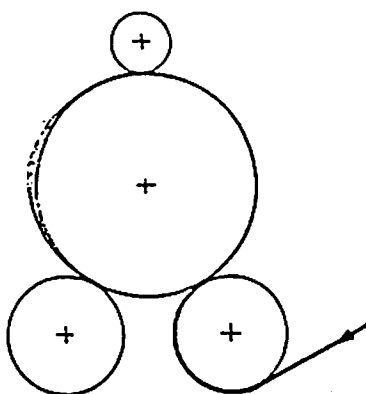

Fig. 2
3. As soon as the web is running through the machine properly, reengage the top knives. Remove the rewound but not slit paper layers (and the damaged trailing end of the used-up parent reel) with a knife (fig. 2).